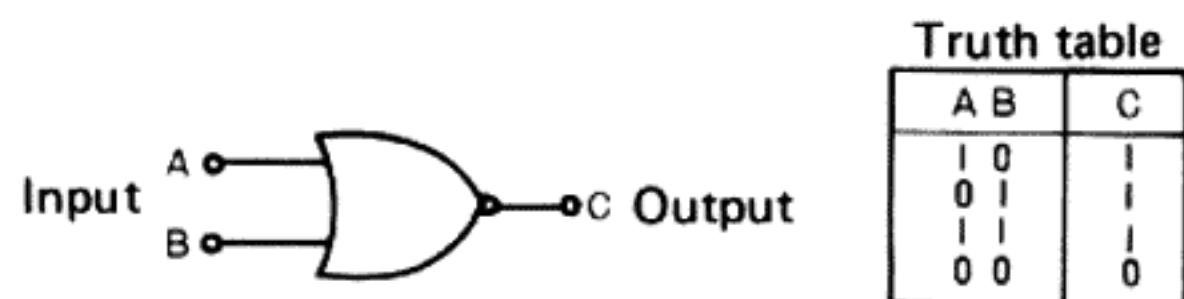
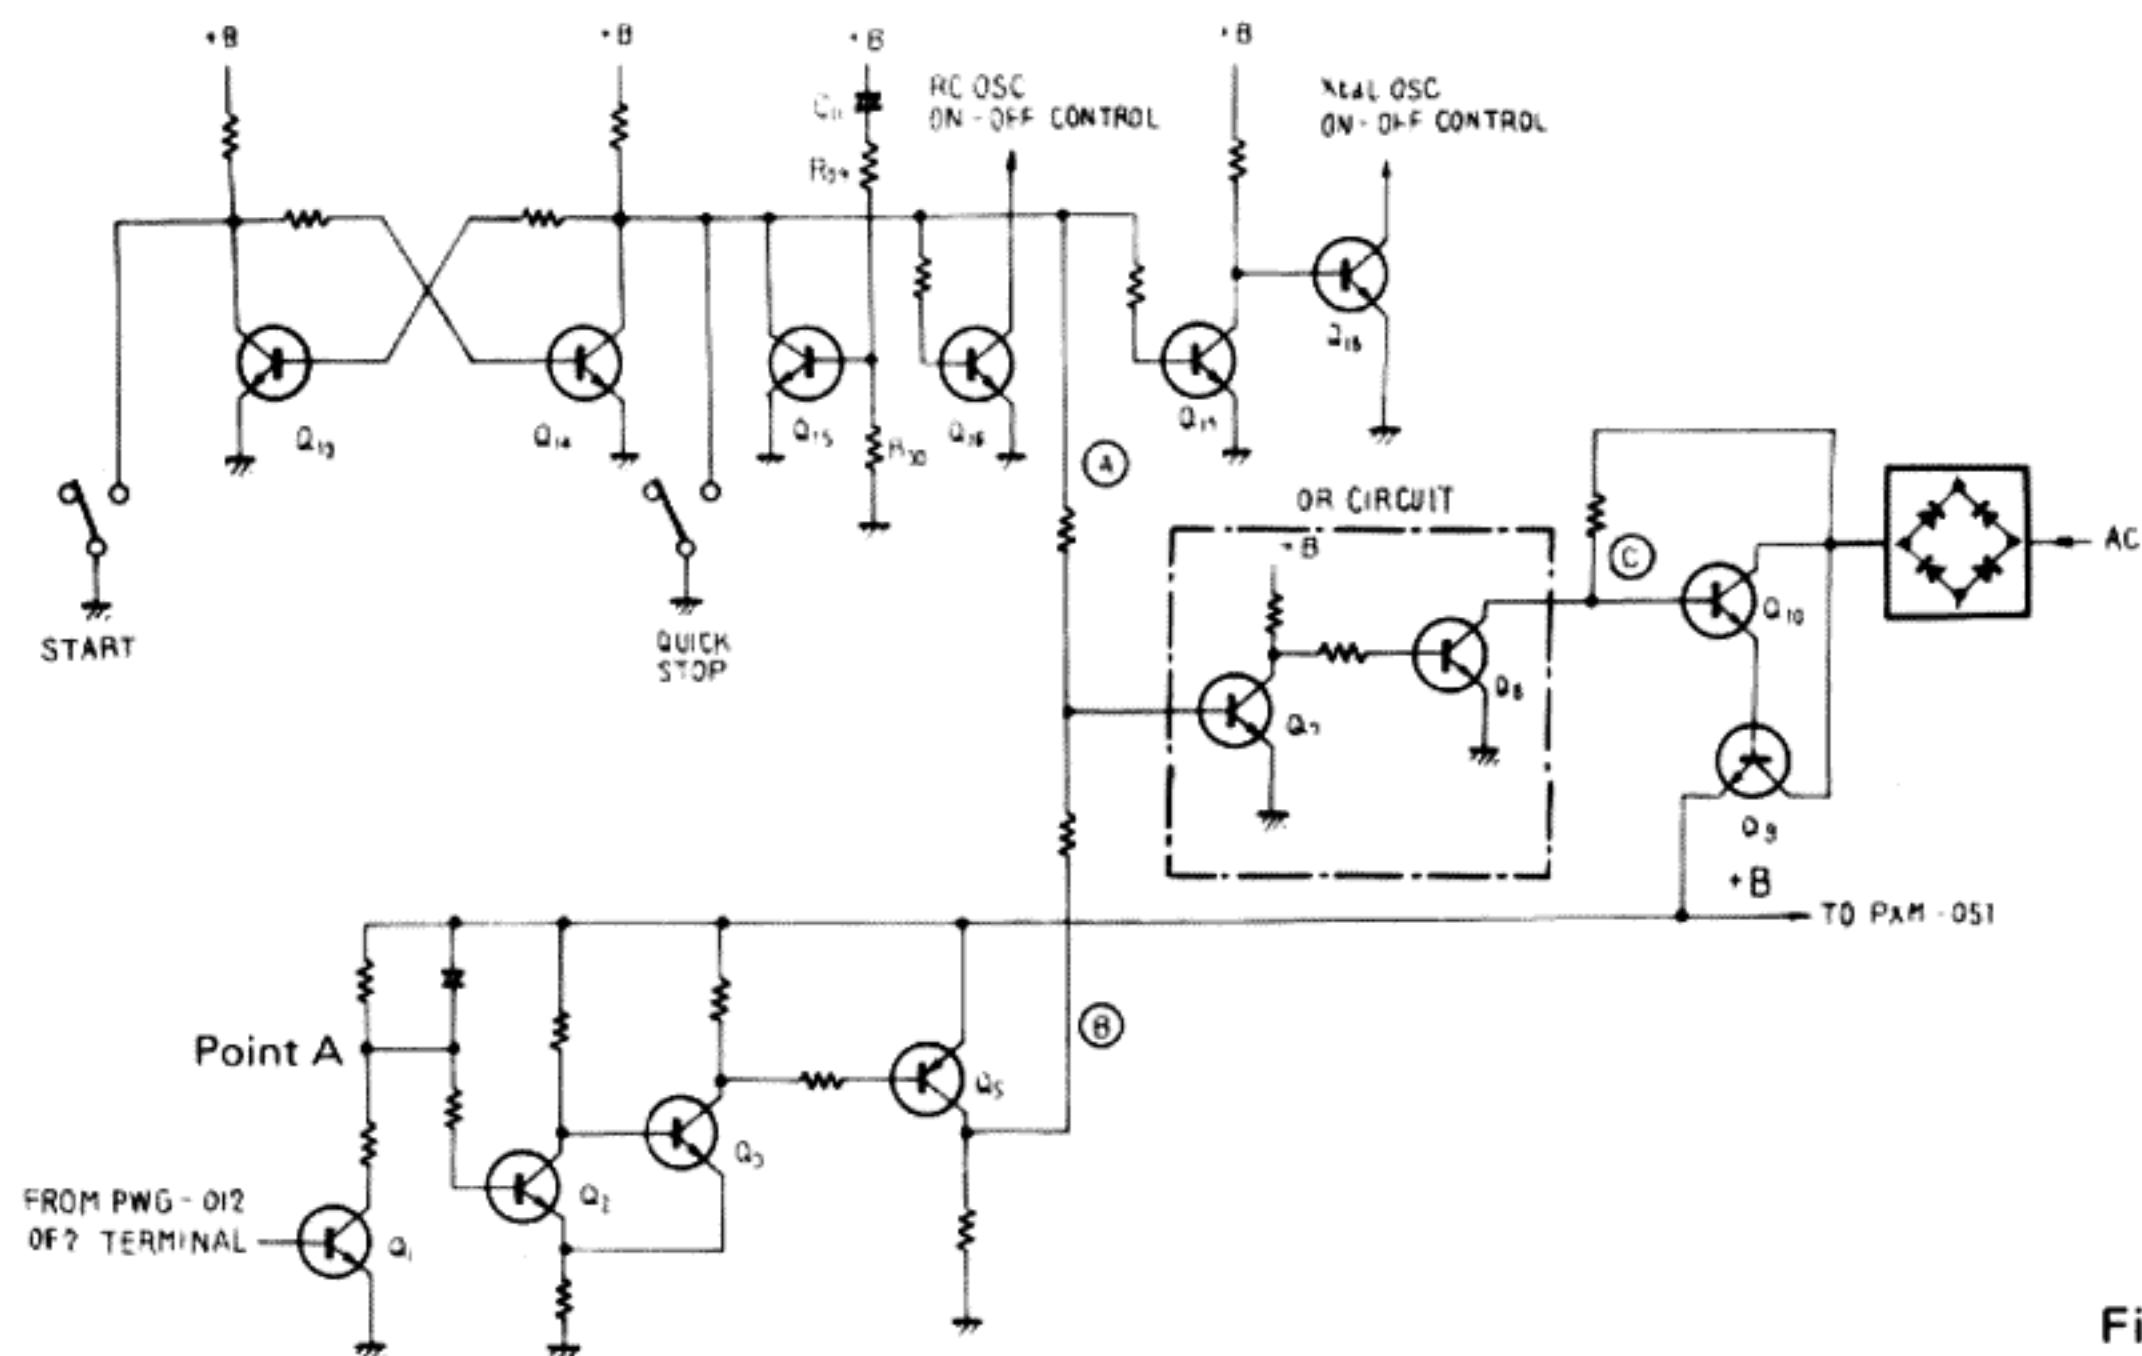

Fig. 4
Fig. 5
3.2 START-STOP CONTROL SECTION (See Figs. 5, 6) (PWR-012)
4. Q_7 , Q_8 constitute a logic circuit (OR circuit). This OR circuit is represented by the symbols shown in Fig. 4 below. The relationship between its input and output is shown in truth table.
(A)(B)(C) in Fig. 5 are ABC in Fig. 4.